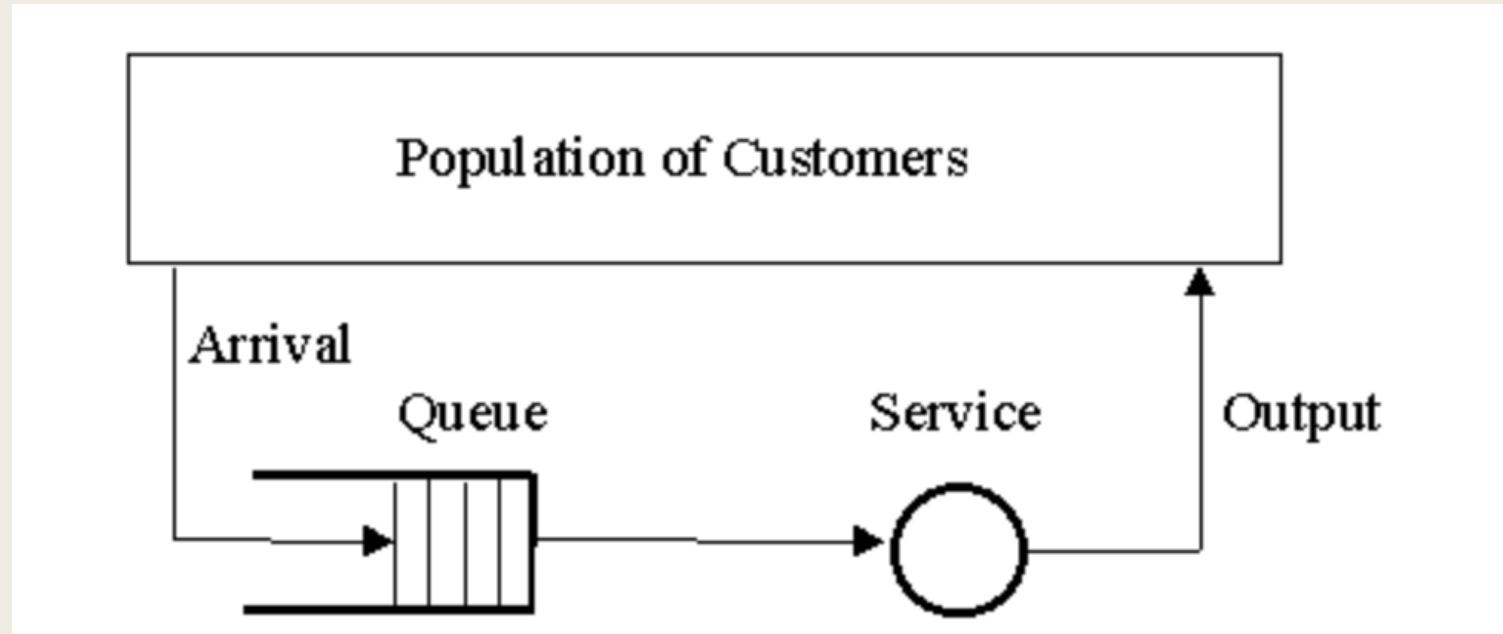

Fig 1: Queuing Model
- The system can be represented graphically as a simple block diagram. Eg: Fig1: Queuing Model